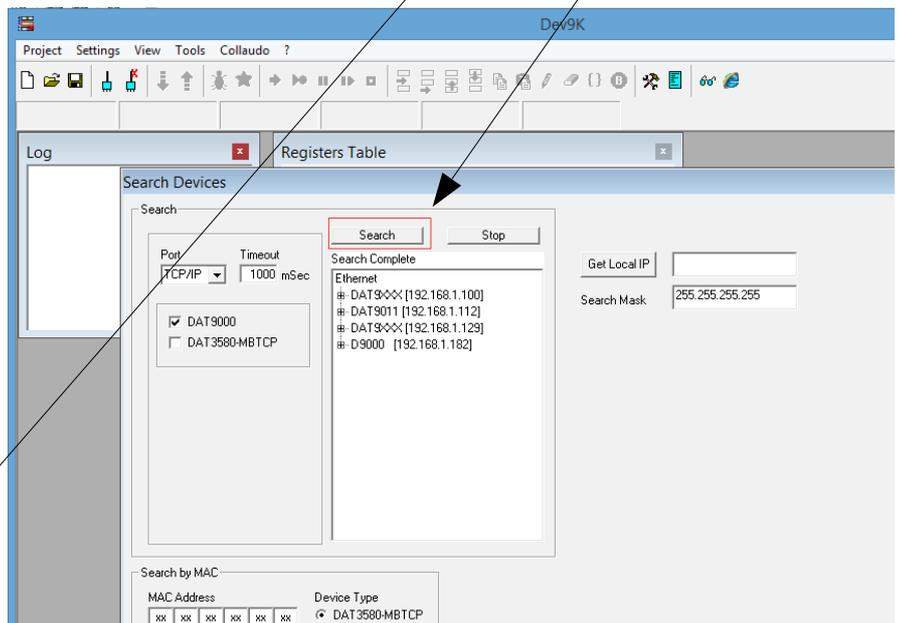

Fig 1.2: Search Devices
- Click on the button **“Search”** to search the controller on Ethernet network; (Fig. 1.2)